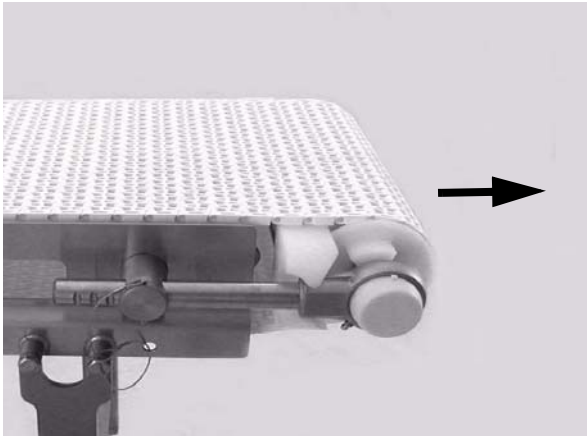

Figure 54
3. Continue extending the tension end until the belt is sufficiently tight (**Figure 54**). Reference figure 32.